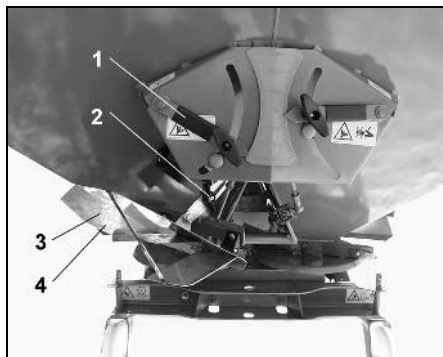
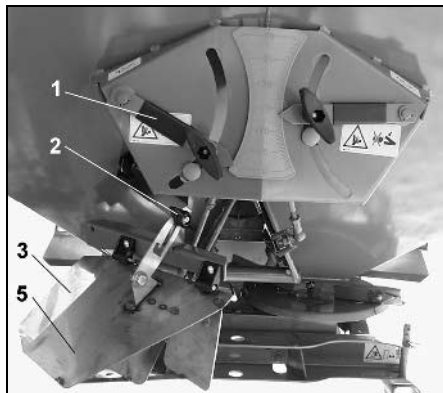

Fig. 48
Fig. 49
- Close left hand shutter (Fig. 48/1).
- Slacken thumb nut (Fig. 48/2).
- Swivel downwards the boundary spread deflector (Fig. 48/3) from out of operation position (Fig. 48/4) to operation position (Fig. 49/5).
- Tighten thumb nut (Fig. 48/2).